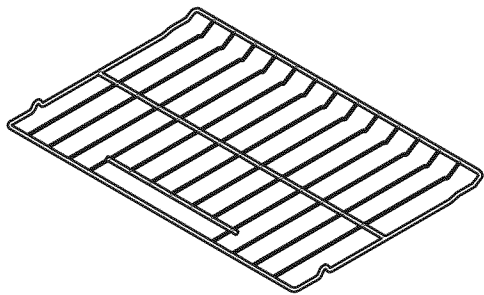
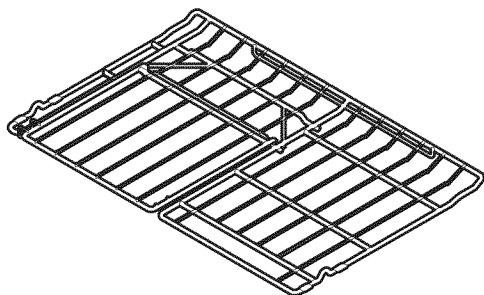
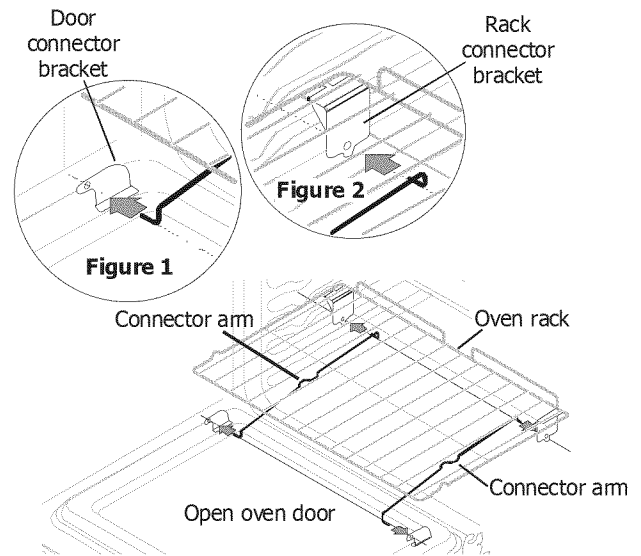

Figure 1
Figure 2
Figure 3 - Assembly of the Effortless™ oven rack
The **Flat Oven Half Rack** has a removable insert that can provide extra space for larger food items. The right half rack portion may still be used for other food items like a casserole dish (See Figure 2 & 3). To remove the insert, squeeze on the left front insert side (See Figure 5) of the rack and tilt out clockwise. To reinstall, insert rear hooks at back of insert (See figure 5) and lay insert down. Make sure both insert front hooks snap into rack (See figure 6).
3. Place the oven rack in positions 1, 2 or 3 only (see previous page to verify positions). Be sure the rack connector brackets are at the rear of the range and pointing towards oven bottom (See Figure 2).
4. Assemble one connector arm at a time. With the oven door open and the oven rack in place, install one end of the connector arm to the hole in the door connector bracket (Figure 1) and the other end in the hole in the rack connector bracket (Figure 2 and as in Figure 3). The oven rack may need to be adjusted in or out in the rack position to match the length of the connector arm.